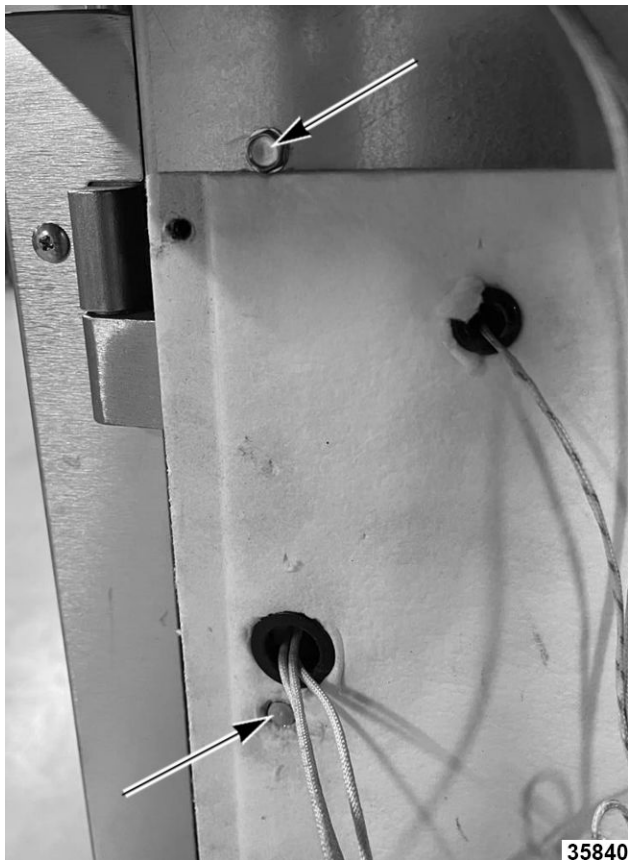

Fig. 30
9. Remove five front right side insulation panel screws (Fig. 30).